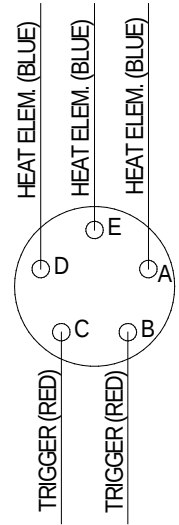

**Fig. 8.9 Hose Circuit Schematic**
**NOTE:** Use Fig. 8.9 Hose Circuit Schematic while troubleshooting the hose electrical system.